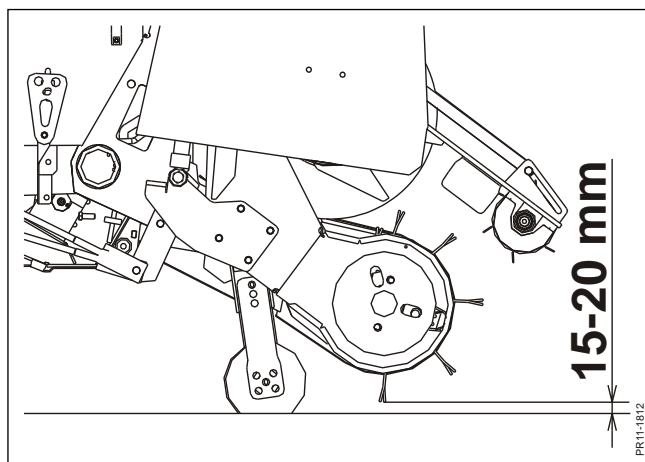

Fig. 6-5
**Fig. 6-5** The underside of the pick-up is equipped with steel support rollers, which are height-adjustable. The wheels have been adjusted at the factory so that there is 15-20 mm space between the tines and even and firm ground. Regularly check that the pick-up tines do not extend further down than is necessary in order to pick up the swath efficiently. If the tines hit the ground too hard, they will wear quickly and the pick-up drive may be overloaded.